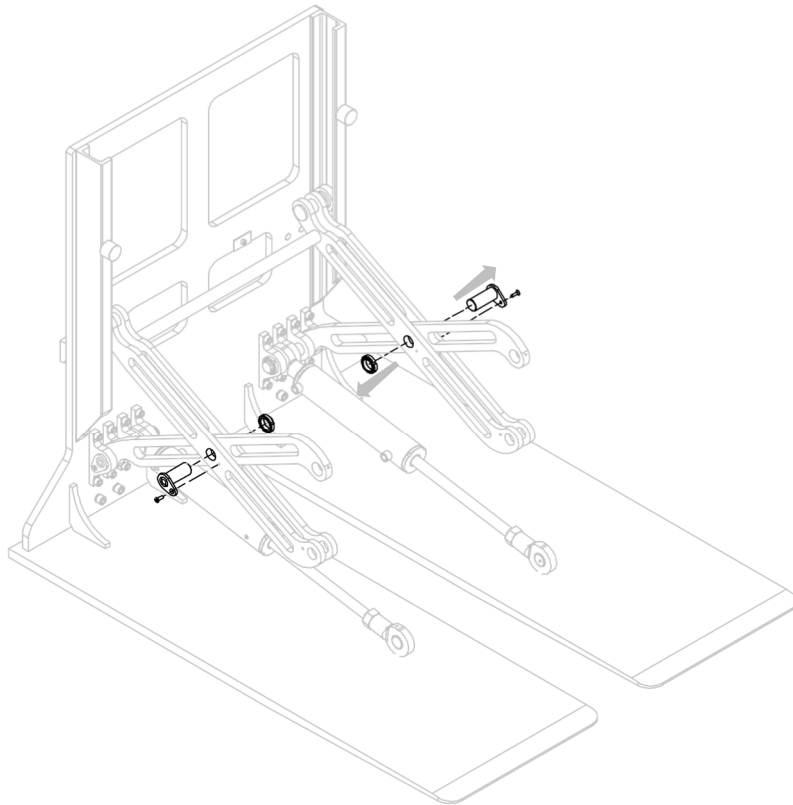
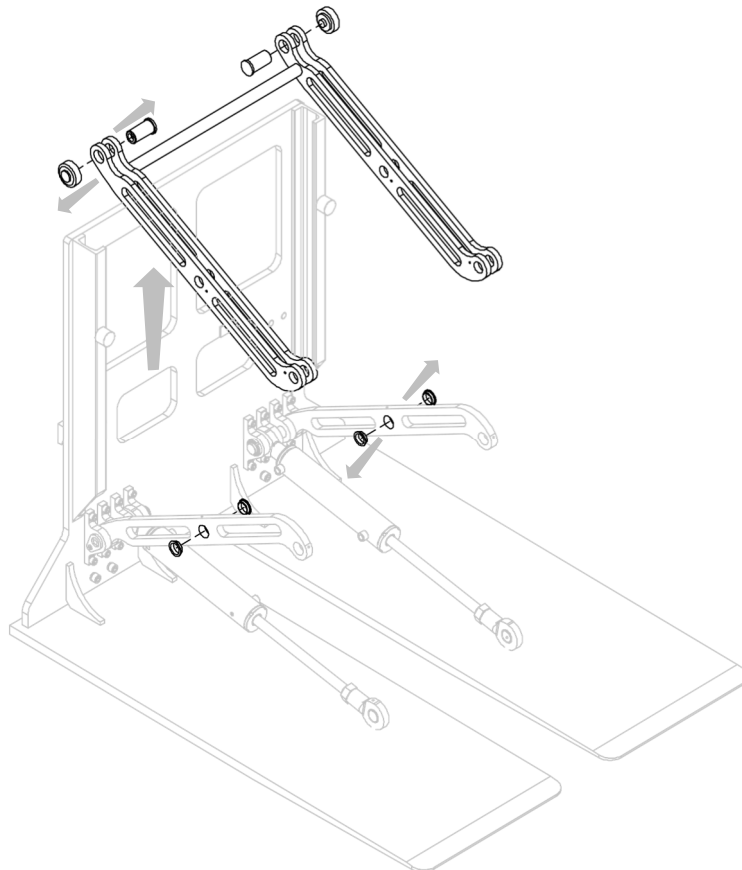

Figure 24
Figure 25
7. Remove the pair of arms (with their bearings) from the equipment, after removing the pins that hold them (see *Figure 24* and *Figure 25*).